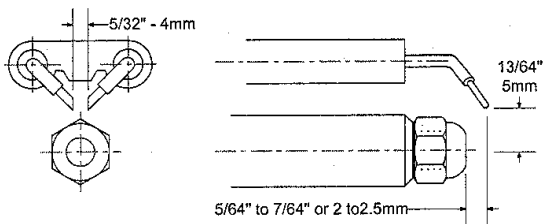

Figure 25: Electrode Setting
- Remove the NOZZLE ADAPTER (2) from the DRAWER ASSEMBLY by loosening the SCREW (1).
- Replace adapter, with nozzle installed, into drawer assembly and secure with screw (1).
4. **Inspect and measure burner electrodes.** Refer to Figure 25 for the proper electrode settings.